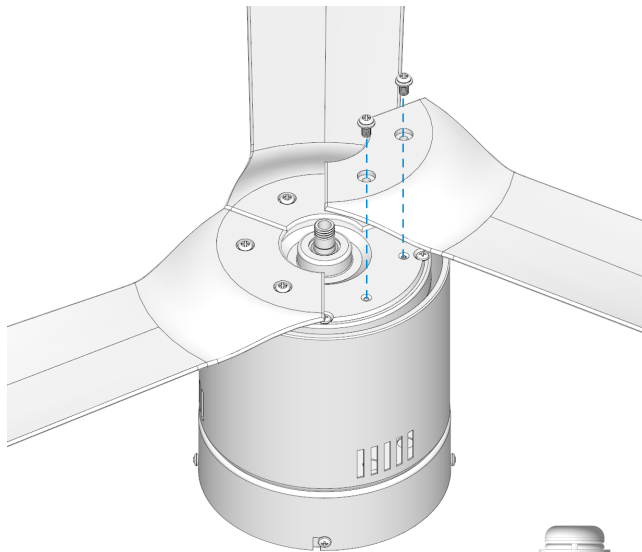

Fig. 2.1
2.1 Carefully place the motor hub upside down. Locate the 6 blade attachment screws included in the hardware pack. Use these screws to firmly attach each blade to the motor hub, as shown in Fig. 2.1.